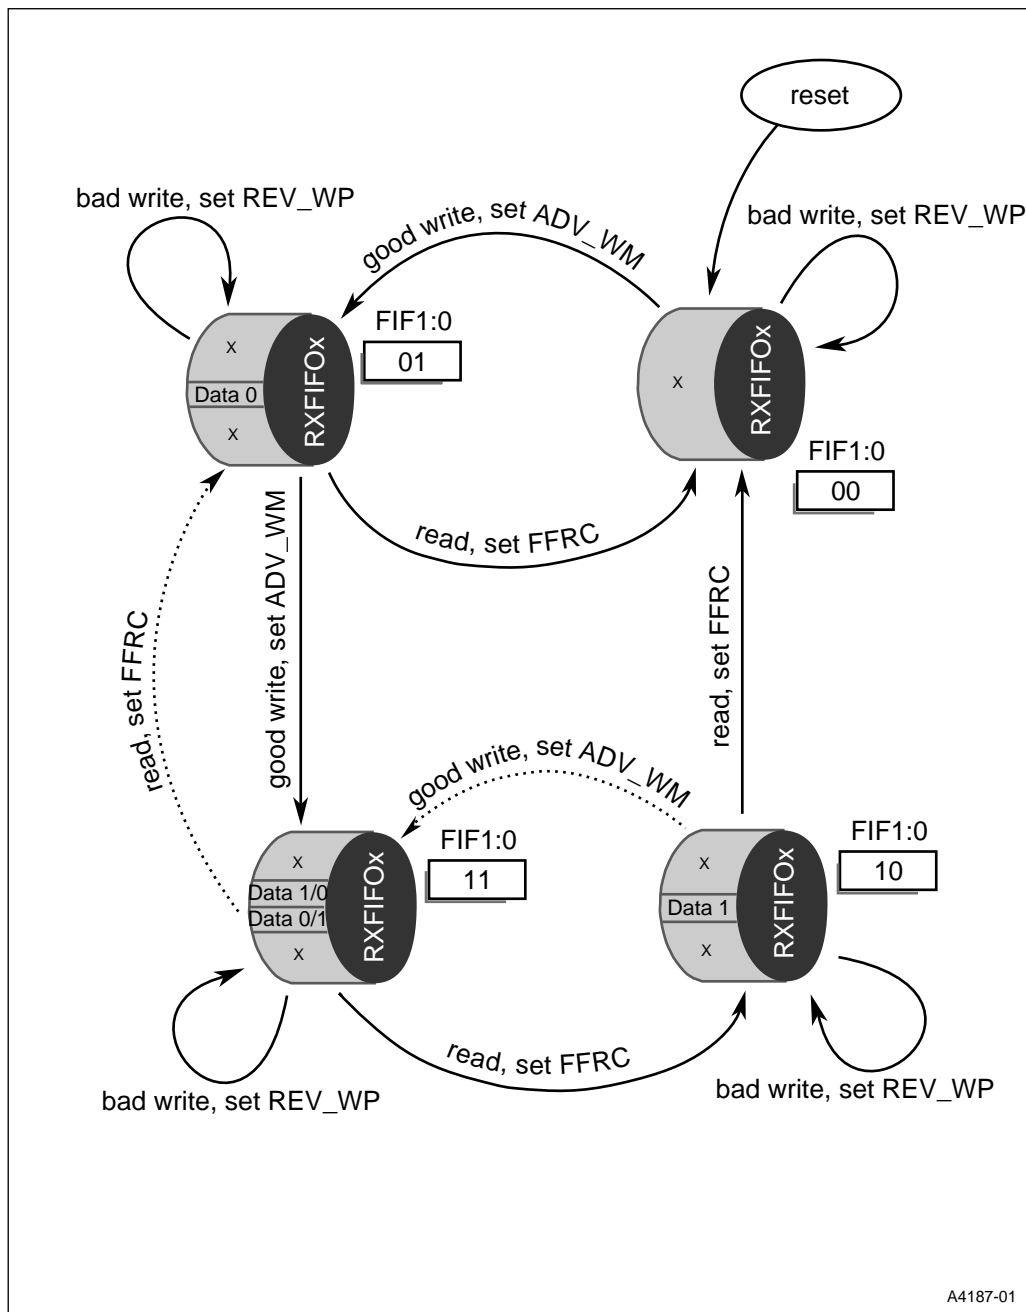

Figure 7-9. RXFIFO Operational Model
Figure 7-9, an operational model of RXFIFO_x, shows the management of the data sets for writes by the SIU to the FIFO and reads of the FIFO by the 82930A. After a reset, the FIFO is empty (upper right, 00[†]). The first write by the SIU fills data set 0 (upper left, 01). If the 82930A now reads the FIFO and the transmission is good, software sets the FFRC bit to indicate that the FIFO read is complete, and the FIFO returns to the 00 state. The diagram shows the other possible states of the FIFO and the transitions between them. Note that the case of both sets full (11) actually represents two states, which differ in the order of the data sets. The write transition from 01 to 11 places data set 1 after data set 0 in the FIFO, whereas the write transition from 10 to 11 places data set 0 after data set 1 in the FIFO. In Figure 7-9, software manages the movement of the write marker and write pointer. If you set the ARM bit, the hardware automatically moves the write marker and write pointer, and software does **not** set ADV_WM or REV_WP. However, for ARM = 1, software must still set the FFRC bit after a read is completed.